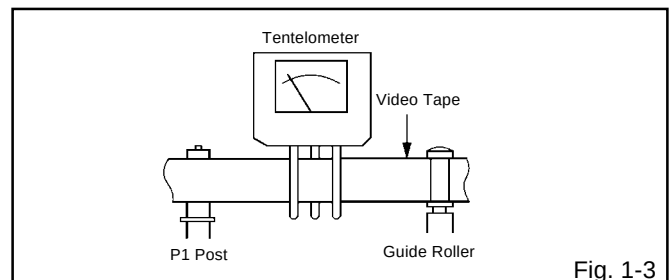

Fig. 1-3
- Install the tentelometer as shown in **Fig. 1-3**. Confirm that the meter indicates 20 ± 2 gf in the beginning of playback.
- After confirmation and adjustment of Tension Post position (Refer to item 1-2), load the cassette type torque tape (**KT-300NR**) and set to the PLAY mode.